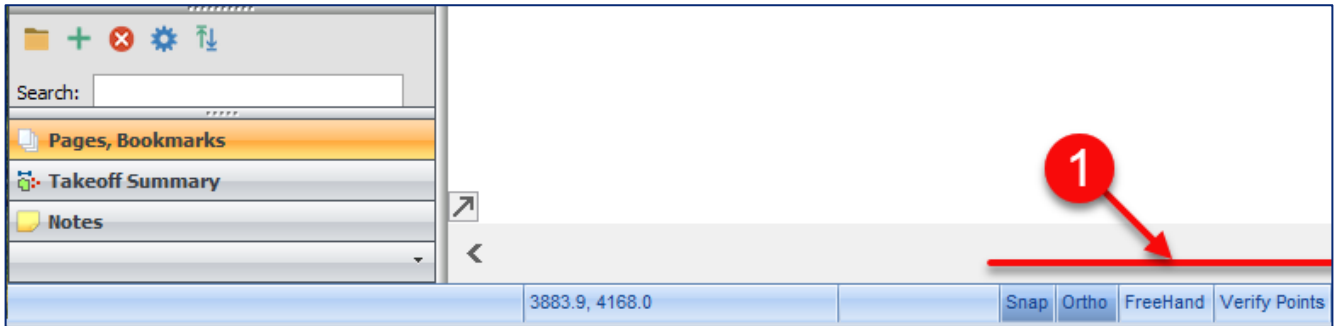

Figure 18-A
1. The Snap, Ortho, Freehand, and Verify Points tools are at the bottom of the PlanSwift window. They can be clicked on at any time to toggle them on (highlighted) or off (un-highlighted) (Fig. 18-A). Each of them is discussed below.